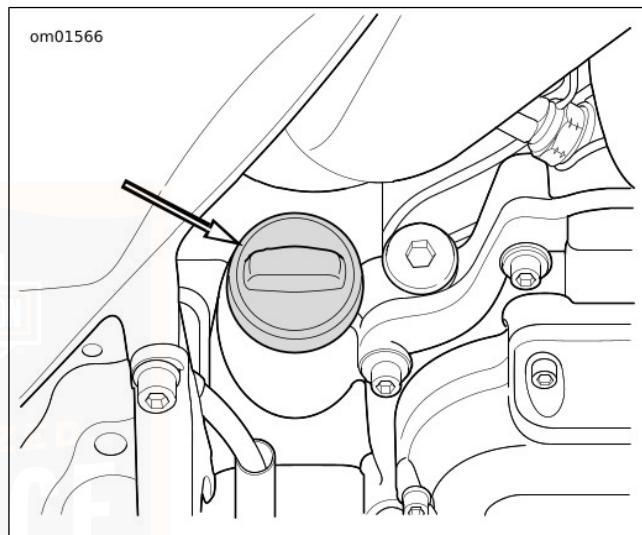

Figure 63. Engine Oil Filler Plug
2. See Figure 63. Check engine oil level.
3. See Figure 63. Check oil level.